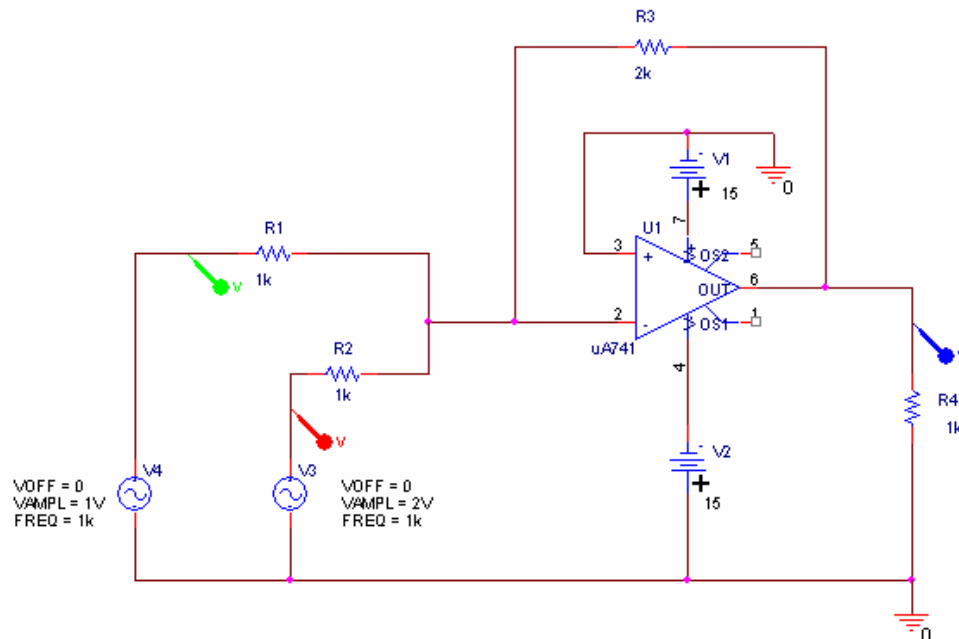

Figure D-3
- Set up the circuit shown in figure D-3 in PSpice.